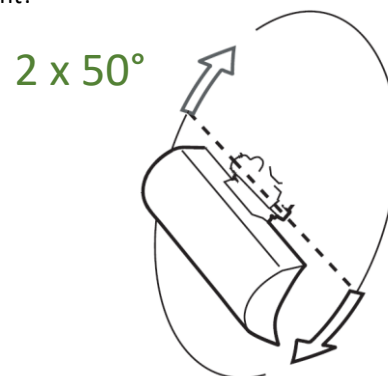

Figure 6
2. Tilt 2 x 50° grader (*Figure 6*)